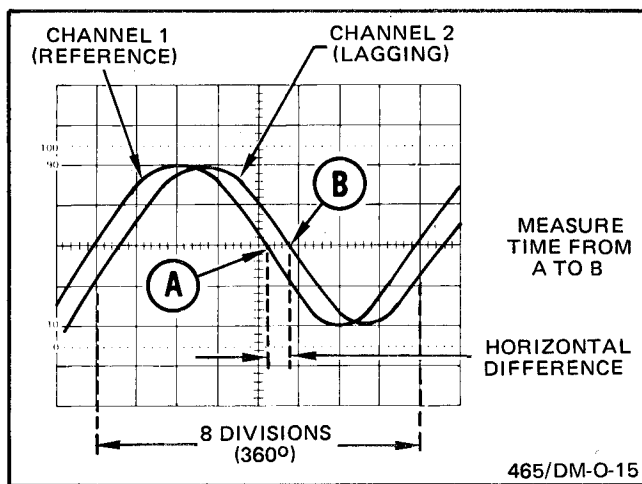

Fig. 2-14. Phase difference.
6. Turn the variable (X1 - X10) SEC/DIV control until one cycle of the reference signal (Channel 1) occupies exactly eight divisions between the first and ninth graticule lines (see Fig. 2-14). Each division of the graticule represents  $45^\circ$  of the cycle ( $360^\circ \div 8 \text{ divisions} = 45^\circ/\text{division}$ ).
Assume a horizontal difference of 0.6 divisions with a sweep rate of  $45^\circ/\text{division}$  as shown in Fig. 2-14.